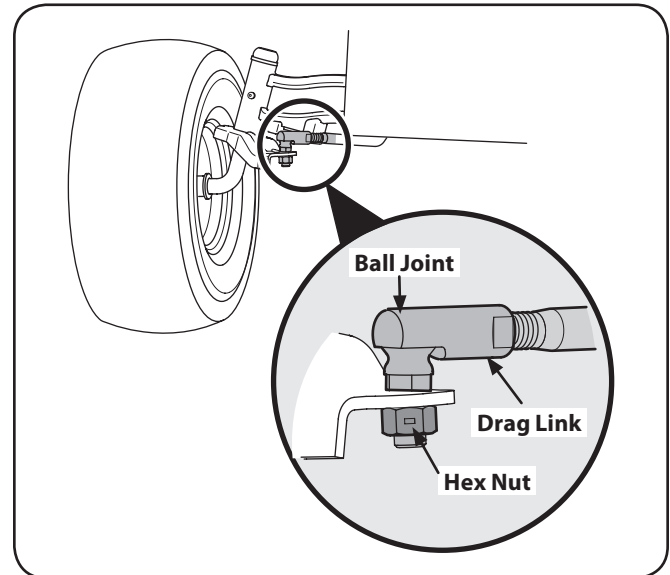

Figure 6-7
1. Remove the hex nut on the top of ball joint. See Fig. 6-7.